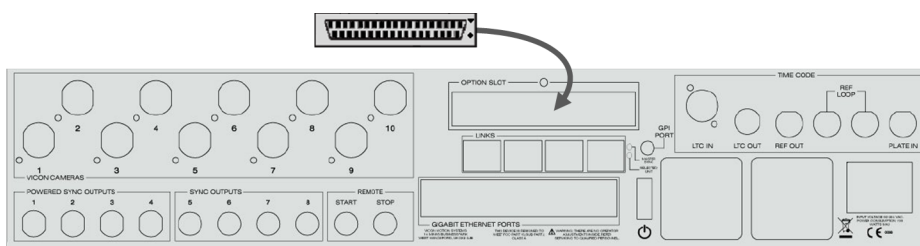

Figure 48: Plug 100-way cable into MX Giganet
1. Plug one end of the 100-way cable into the **Option Slot** socket on the rear of an MX Giganet, shown in Figure 48, ensuring that it clicks firmly into place.